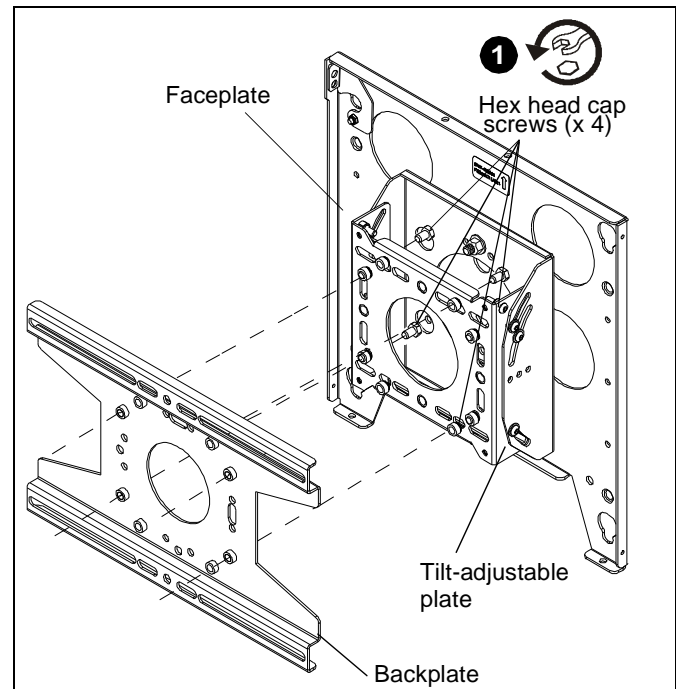

Figure 2
1. Detach backplate from tilt adjustable plate/faceplate assembly by removing the four hex head cap screws. (See Figure 2)